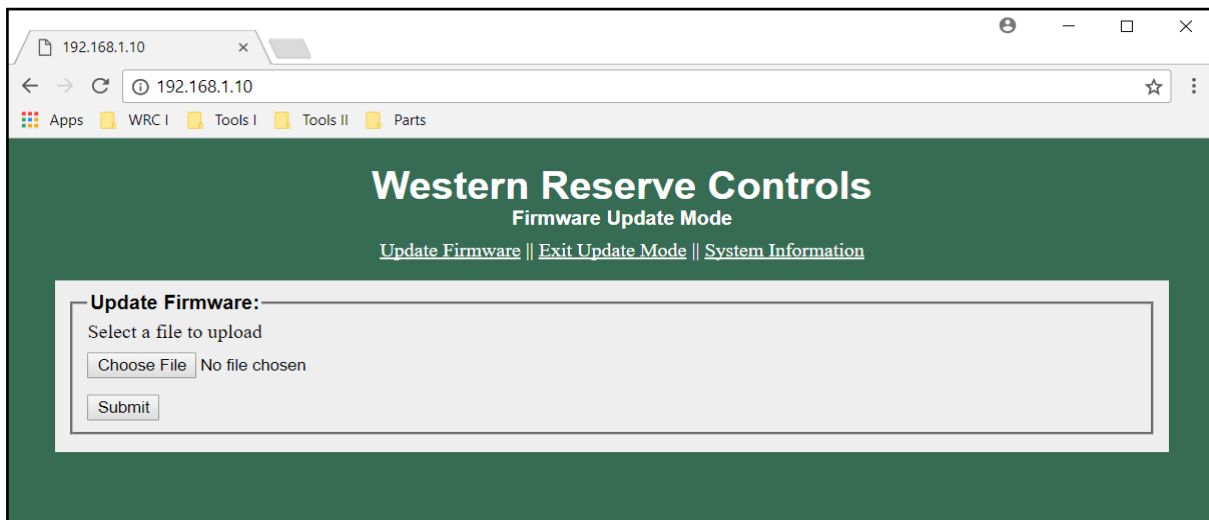

Figure 26. Firmware Update Mode Webpage
2. To verify device is in Bootloader Mode, open a browser and enter the static IP address 192.168.1.10. The Firmware Update Mode webpage shown in Figure 26 should appear in about 15 seconds. Also, the MS LED should be solid amber and NS LEDs should be off.